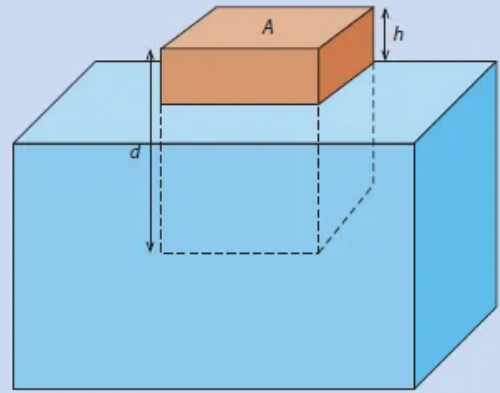

Figure B.47
B.24 Figure B.47 shows a floating rectangular platform made out of wood of density 640 kg m^{-3} . The fluid is water of density 1000 kg m^{-3} .